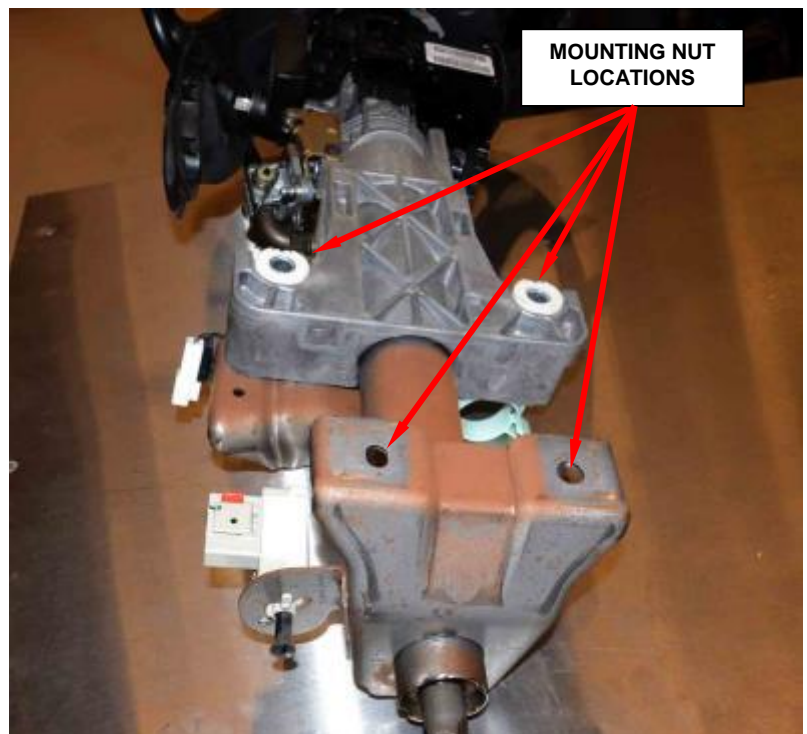

Figure 137 - Steering Column Mounting (Column Removed for Photographic Purposes)
16. Remove the four steering column mounting nuts (Figures 137 and 138).